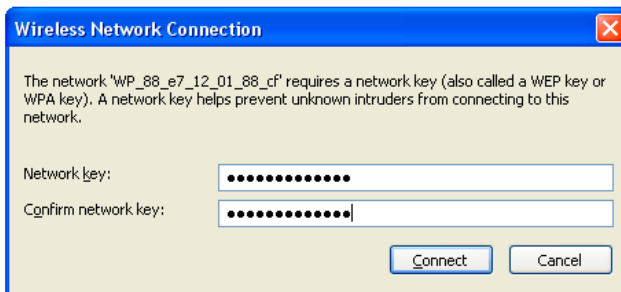

Figure 12 - Enter SAID Number
- In the "Network key" field (see figure 12), enter the SAID number, which is found next to the Serial/Model # tag. **IMPORTANT:** THIS KEY IS CASE SENSITIVE. Confirm the key, then select the "Connect" or "Next" button to connect to the network.